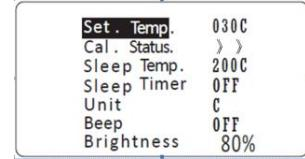

Fig.8
3.4. When Cal. status display " > " (see Fig 8.) , it means "Real Temp." has calibrated to max. temperature, can not increase anymore, but it can decrease temperature.